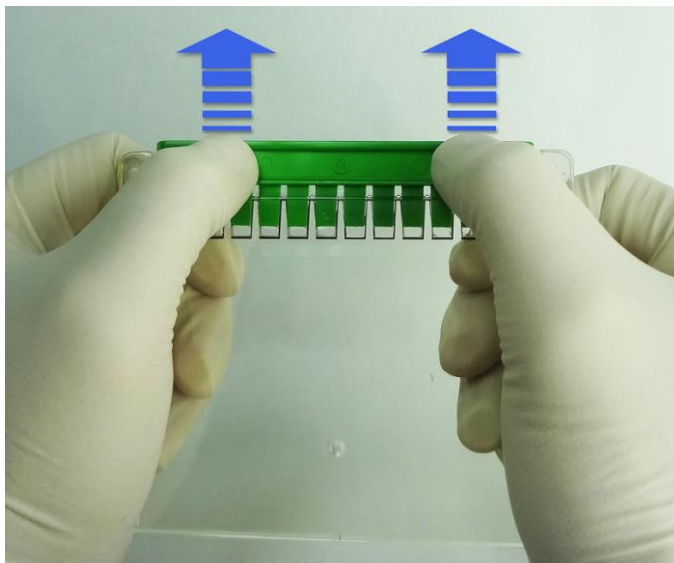

Figure 2. Remove the comb from the gel cassette
3. Remove the comb from the gel cassette gently (see Figure 2).